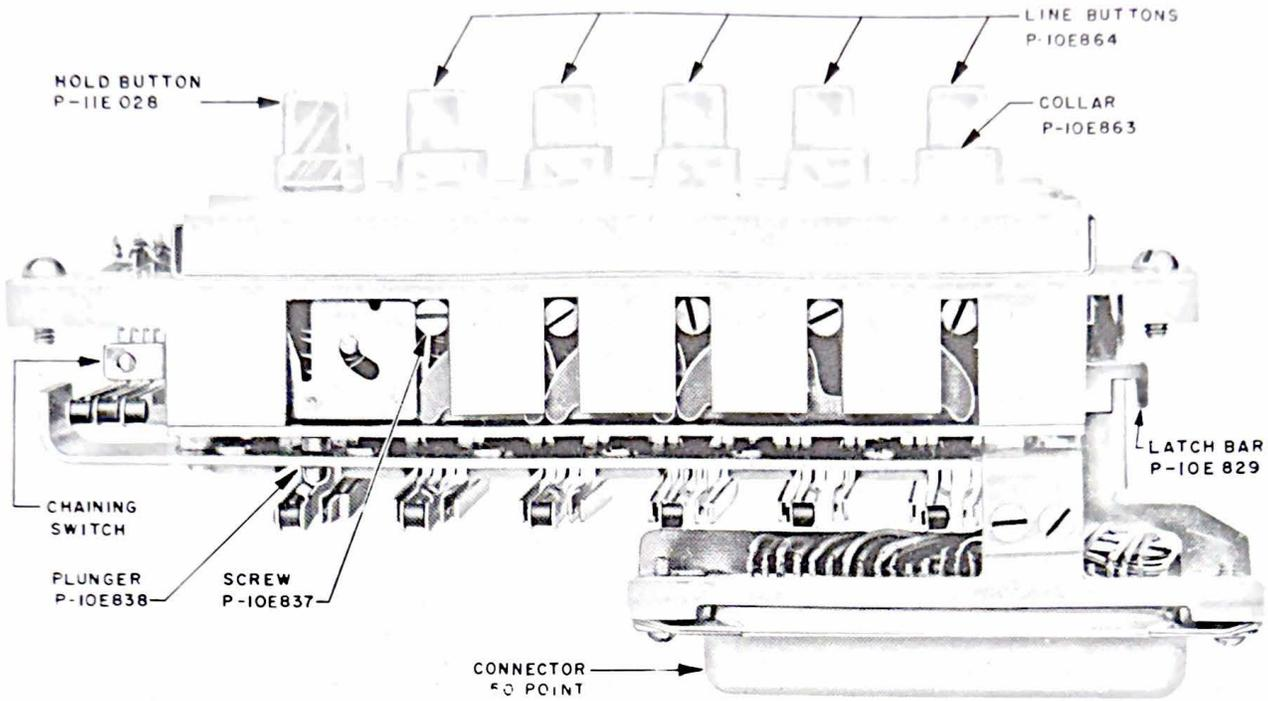

Fig. 10 - 599A Key
7.02 The 599A key (see Fig. 10) is the same design as the 598A with the following exceptions: